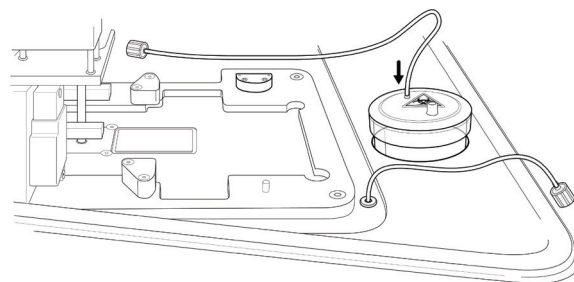

Fig. 15. Attach waste jar tubing.
4. Attach the waste jar tubing to the Waste Jar (Figure 15).